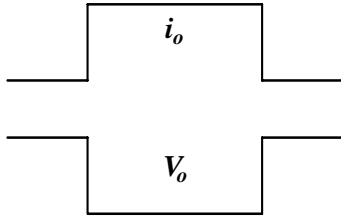
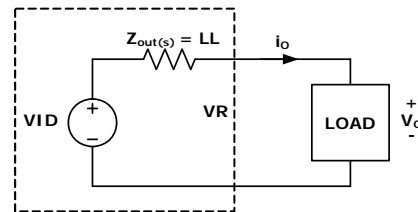

FIGURE 14. DESIRED LOAD TRANSIENT RESPONSE WAVEFORMS
FIGURE 20. VOLTAGE REGULATOR EQUIVALENT CIRCUIT
Assuming the compensator design is correct, Figure 14 shows the expected load transient response waveforms if C_n is correctly selected. When the load current I_{core} has a square change, the output voltage V_{core} also has a square response.
Figure 14 shows the desired load transient response waveforms. Figure 20 shows the equivalent circuit of a voltage regulator (VR) with the droop function. A VR is equivalent to a voltage source (= VID) and output impedance $Z_{out}(s)$. If $Z_{out}(s)$ is equal to the load line slope LL, i.e. constant output impedance, in the entire frequency range, V_o will have square response when I_o has a square change.